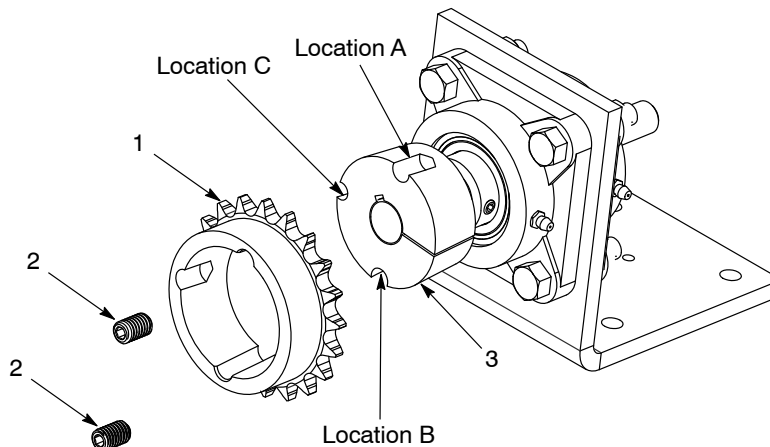

Figure 18 Replacing Sprocket
3. See Figure 18. Using an allen key, remove the two set screws (2) from Location A and B from the bushing (3).